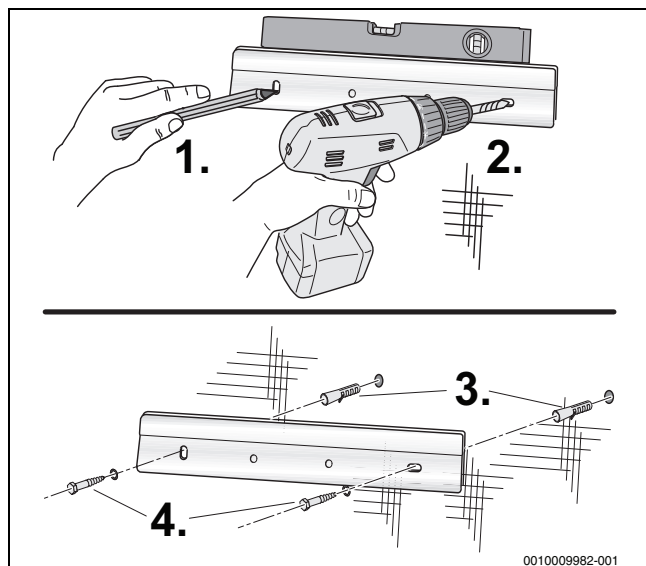

Fig. 10 Installing the mounting rail on the wall
- ▶ Mark holes using the supplied mounting rail (→ figure 10).